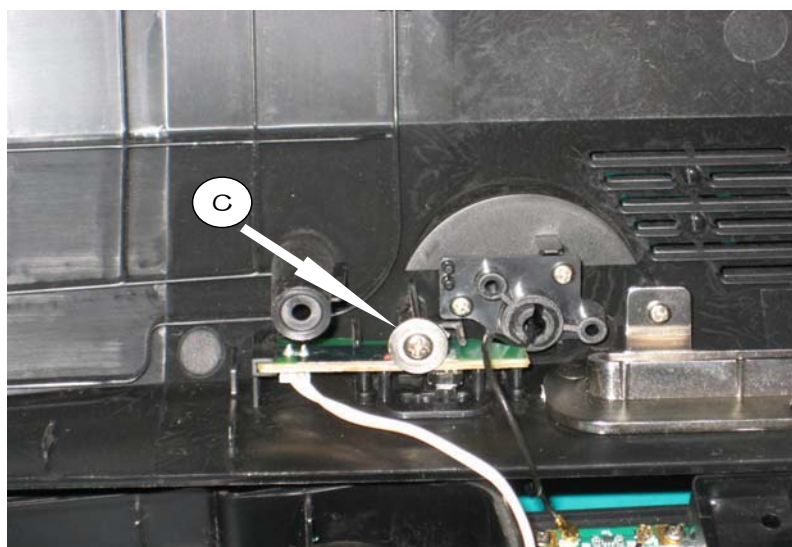

Figure 3
- 1) Loosen 1 screw "C" to detach Eject Board as shown in figure 3.